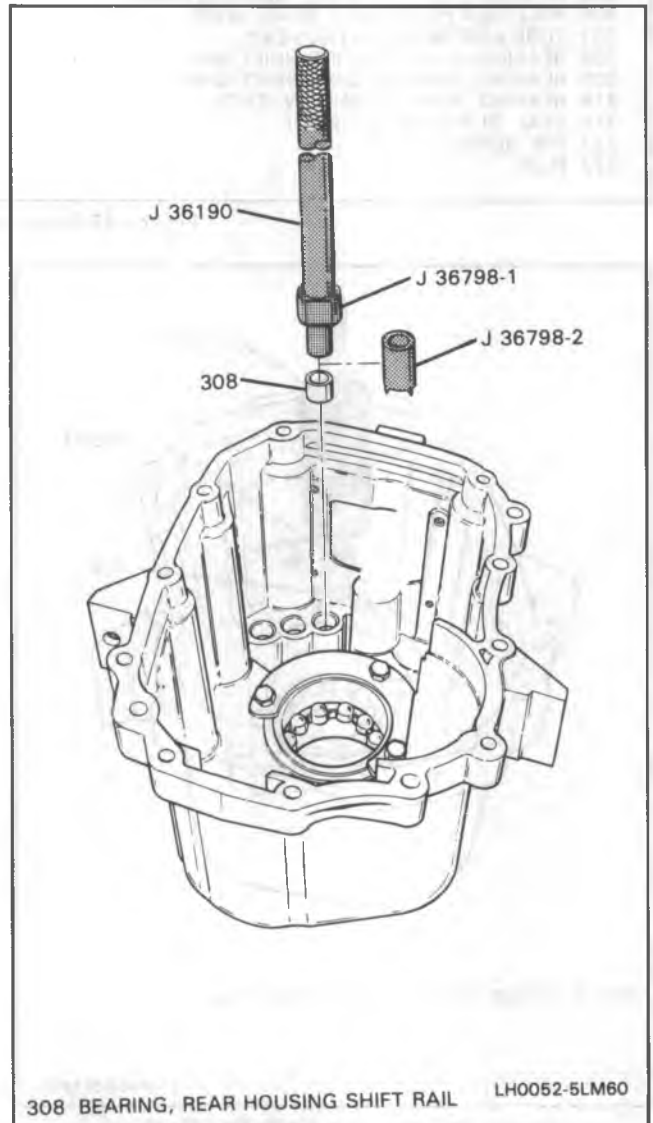

Figure 51 Shift Rail Bearings Install
1. Rear housing shift rail bearings (308) (three), using J 36190 and J 36798-1 (Figure 51).